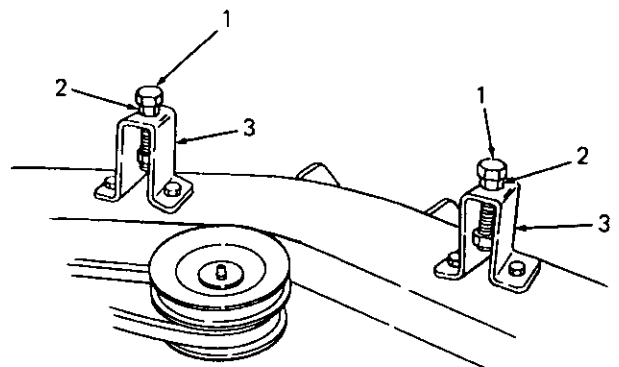

Figure 13
- Lower each of the two front leveling bolts by raising the jam nut up to the head of the front leveling bolt. Refer to Figure 13.